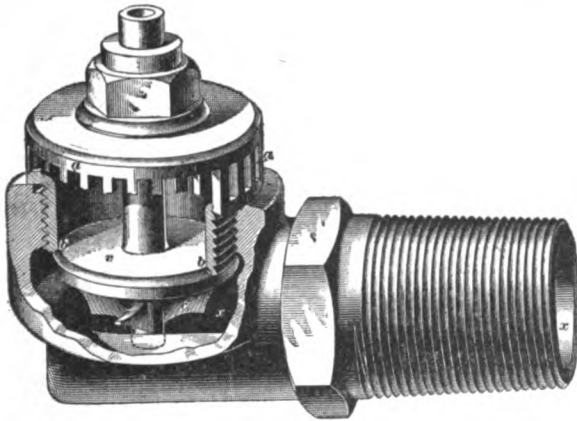

FIG. 53.
**61. The Richardson Relief Valve.**—A relief valve *R* is used to prevent a vacuum forming in the steam chest and cylinders when running with steam shut off. A view of the Richardson relief valve is shown in Fig. 53, in which part of the casing is broken away to show